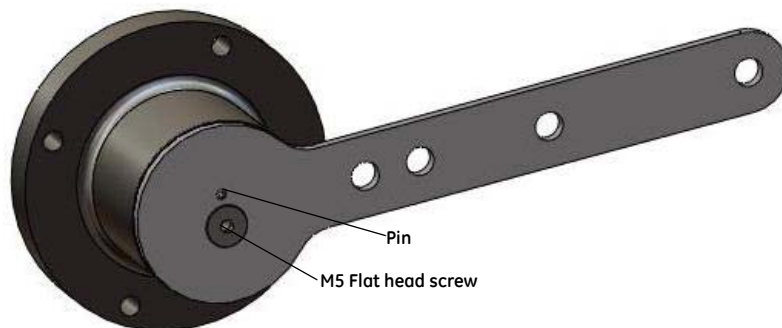

Figure 45 Magnet Holder for Reciprocating Valves
1. Ensure that the lever is pinned to the magnet assembly and held securely by an M5 flat head screw to ensure that the magnet axis is vertical when the lever is in the valve closed position. Tighten the lever screw securely. Refer to Figure 45.